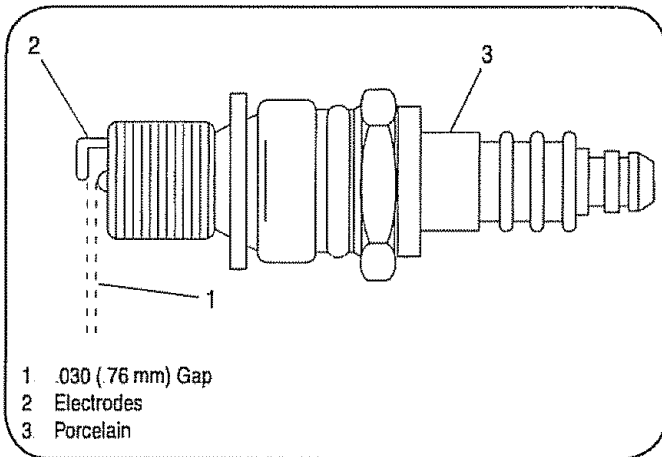

Figure 15
2. Remove and inspect the spark plug. Check gap, make sure it is set at .030. See Figure 15.